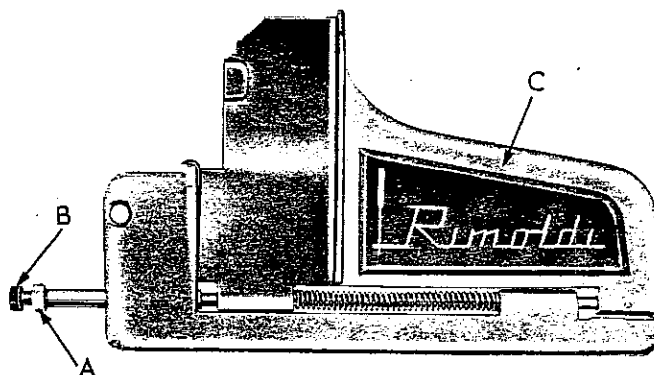

fig.17
f) Adjustment of front cover plate (fig. 17)